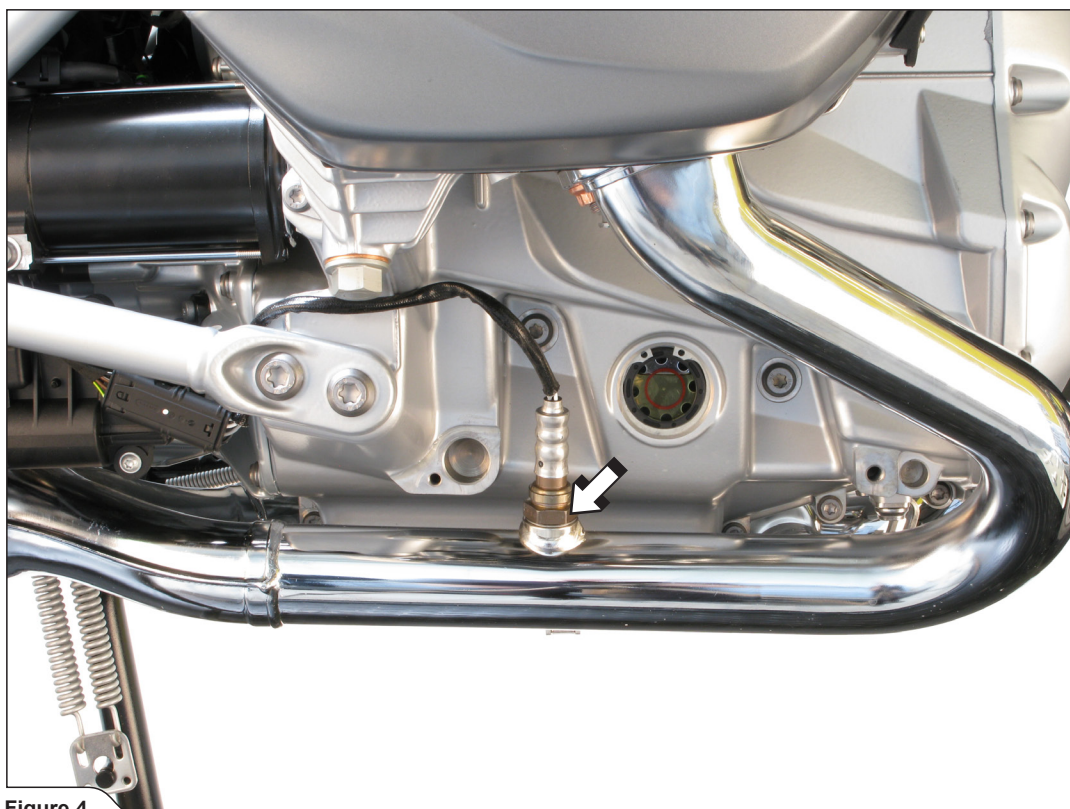

Figure 4
5. Unscrew the lambda sensors on both sides of the motorcycle (**Figure 4**).